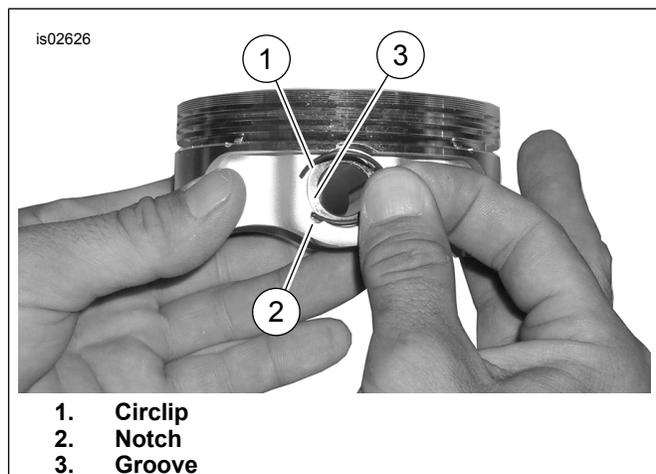

Figure 3. Circlip and Piston
1. See Figure 3. Insert the open end of the circlip (1) into the notch (2) on the groove (3) around the piston pin boss so the gap is at the 12:00 or 6:00 o'clock position when installed.